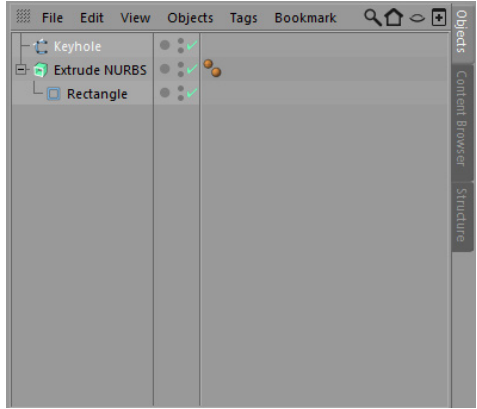

Figure 2-13 *Spline renamed as keyhole*
4. Select the **Spline** in the Object Manager. In the Attribute Manager, make sure that the **Object** button is chosen. In the **Object Properties** area, make sure the **Close Spline** check box is selected. Next, choose the **Basic** button; the **Basic Properties** area is displayed. In this area, enter **keyhole** in the **Name** text box; **Spline** is renamed as **keyhole** in the Object Manager, as shown in Figure 2-13.